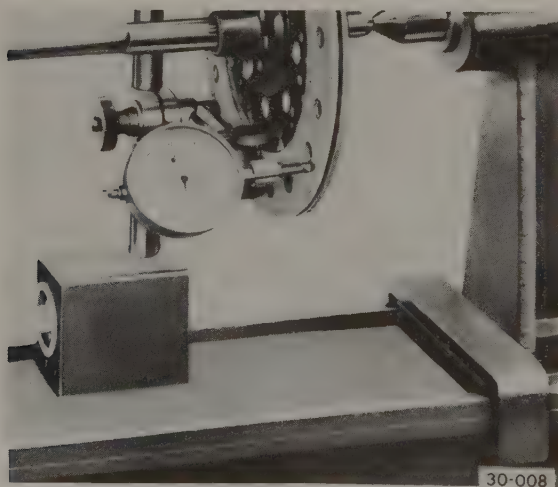

Fig. 5-8. Dial indicator being used to measure clutch disc runout while disc is rotated.
3. Check the thickness, runout, and general condition of the clutch disc. See Fig. 5-8. If runout exceeds 0.40 mm (.016 in.), or if there is any evidence of contamination by oil, the disc should be replaced.